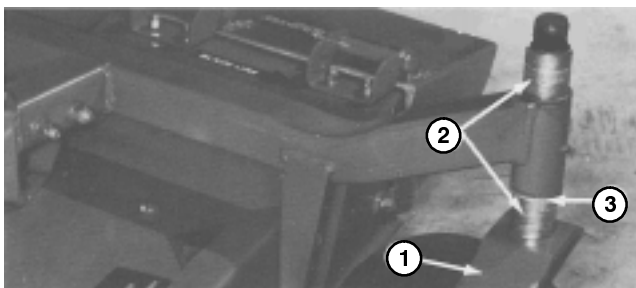

Figure 16
2. Remove tensioning cap from spindle shaft, Slide spacers onto the caster spindle to get desired height-of-cut (Fig. 16 and 17). Then slide washer (Fig. 16 and 17) onto spindle.
2. Push castor spindle through caster arm. Slide any remaining spacers onto spindle (Fig. 16 and 17). Install tensioning cap to secure assembly.